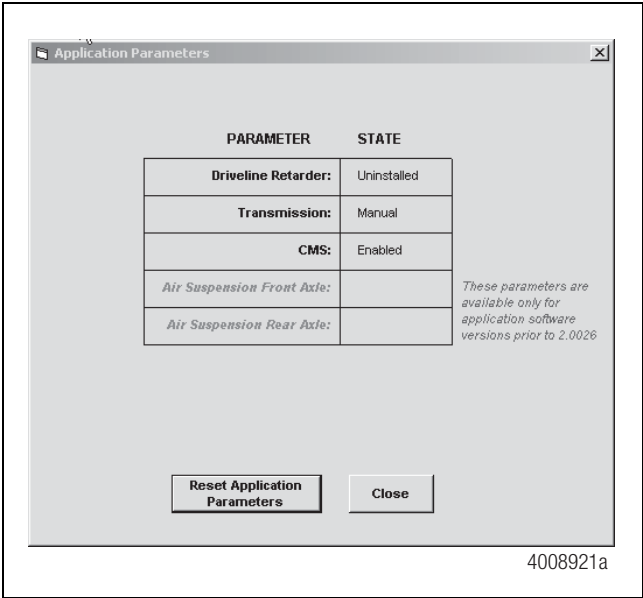

Figure 2.24
6. If the radar software version is USO 2.0026 or higher, the parameters for "Air Suspension Front Axle" and "Air Suspension Rear Axle" are not available. Figure 2.24.